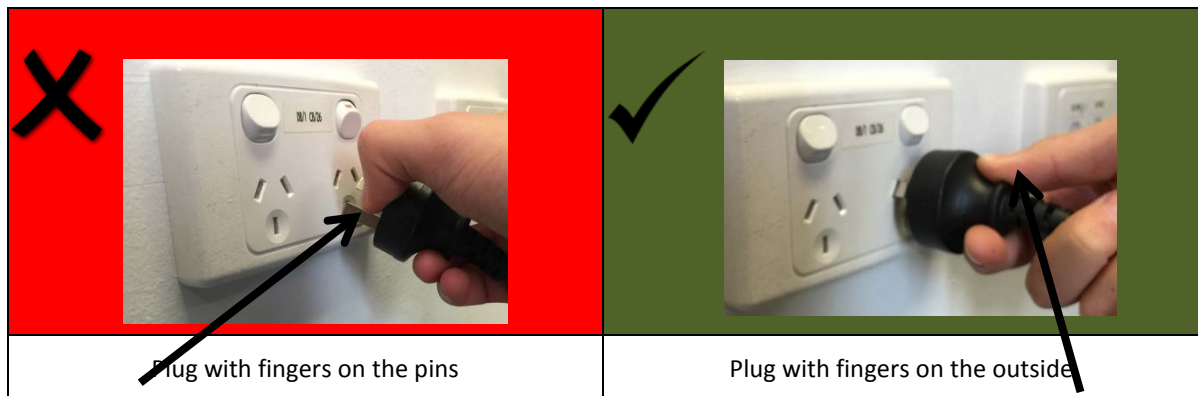

Figure 3: Hold the plug with fingers on the outside of the plug and away from the pins
2. Hold the plug with fingers on the outside of the plug and away from the pins (Figure 3).